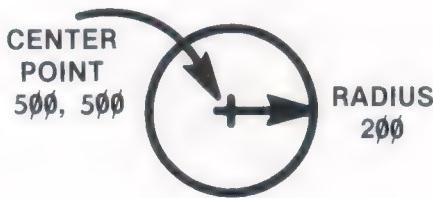

FIGURE 2-7
In this example, the plotter is selected (>::). Home position is specified (H). Absolute pen positioning is specified (A). The coordinate user addressability is set to .005" (EC5). Circle Plot is specified, and the pen draws a circle having a radius of one inch around the circle's center point coordinate 500,500, (CC) (see Figure 2-7). The radius was derived from the plotter's user addressability times the radius specifier (.005" \times 200 = 1 inch).